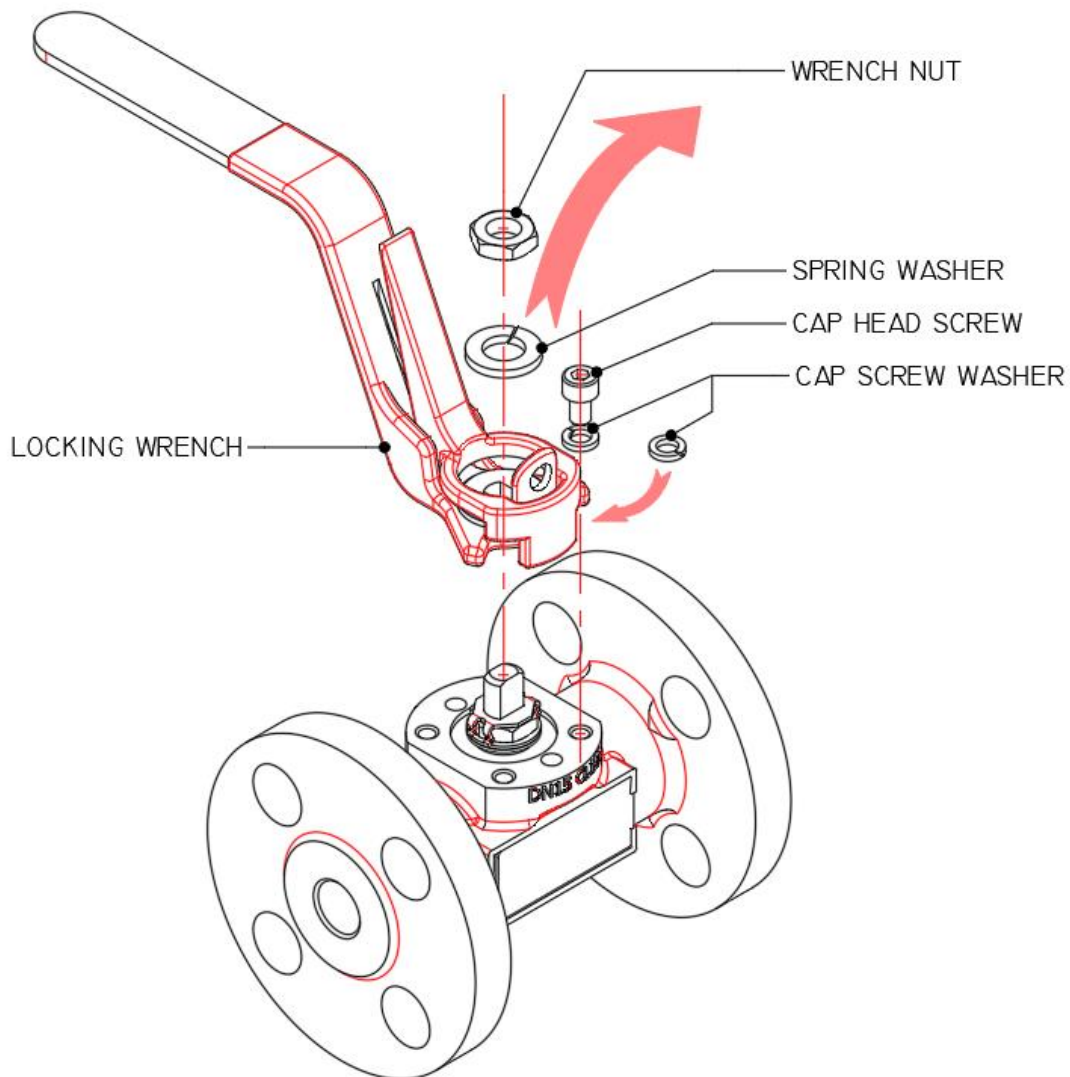

Figure 2 Assembly of the Locking Wrench Kit
4. Add new cap screw in location shown in figure 2, assembled with two cap screw washers